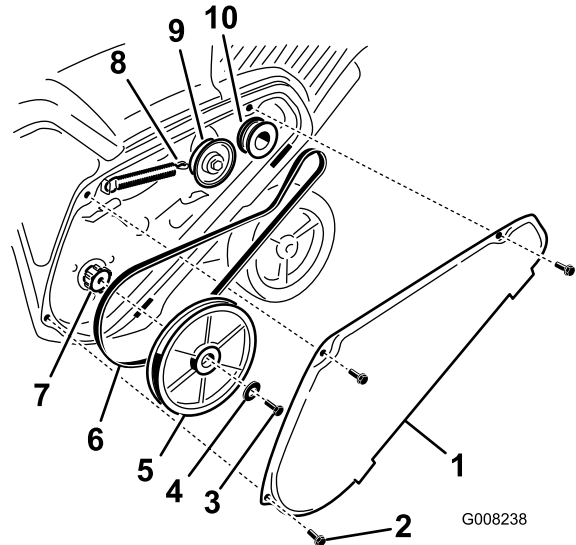

Figure 24
- Bolt (3)
- Unhook the brake spring from the idler arm to release the belt tension (Figure 24).
- Remove the screw and curved washer that holds the rotor pulley (Figure 24).
- Remove the rotor pulley and the drive belt (Figure 24).
Note: Route the new drive belt first around the engine pulley, then the idler pulley, and finally around the loose rotor pulley positioned just above the rotor shaft (Figure 24).
6. Install the rotor pulley onto the rotor shaft (Figure 24).
7. Install the curved washer and the rotor pulley bolt and tighten them securely (Figure 24).